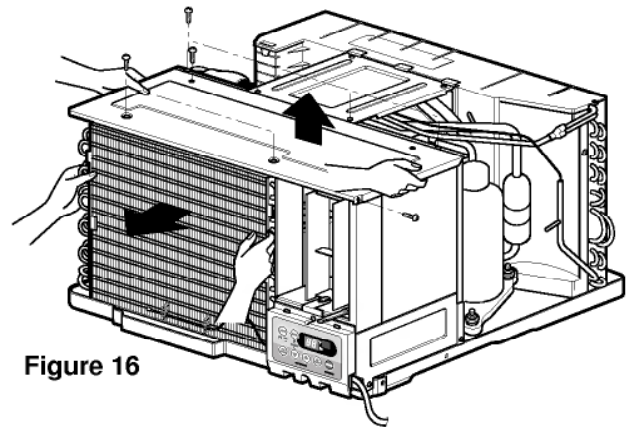

Figure 16
7. Re-install the components by referring to notes. (See Fig. 16)